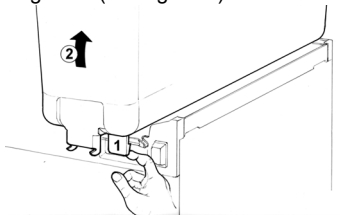

figure 2
- 2 Remove the empty bowl by lifting pulling lever (1) and its front side (faucet side) up and off bowl gasket (see figure 2).